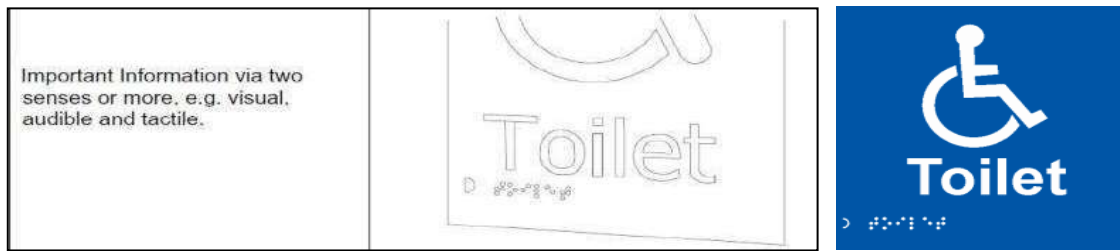

Figure 5.5 Accessible Toilet Signage
- **Accessible Toilet Signage:** Toilet sign should consist of a plate/ board with 1mm raised white characters, 25mm high and 6mm border on a Navy Blue background. The International Symbol of Accessibility must appear on all bathrooms and changing rooms that are accessible. It can also have a room number sign if required. Braille must be located directly below lettering. Only text and Braille have to be raised, pictograms do not have to be raised (refer Figure 5-5).